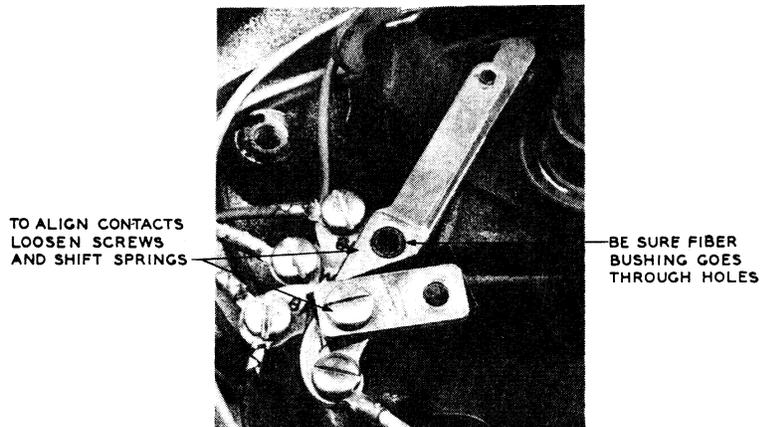

FIG. 3 — CONTACT ALIGNMENT
3.05 To align contacts, loosen mounting screws on contact pile-up and shift springs (see Fig. 3).